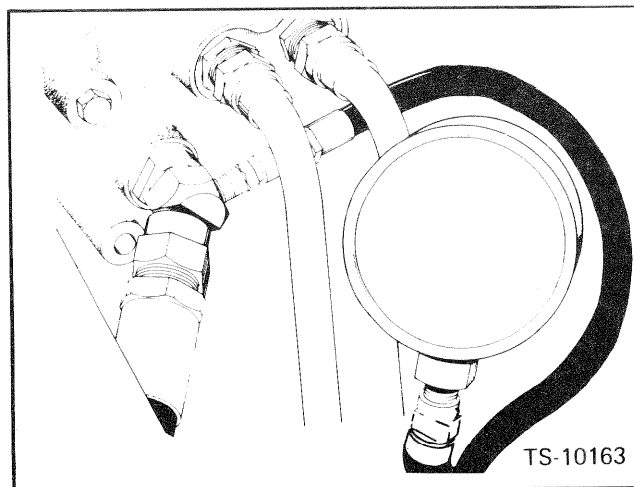

Fig. 11-3 Main Relief Valve Pressure check
1. Remove the floor panel and attach a hydraulic gauge of at least 3,000 p.s.i. (8779.2 kg./cm. sq.) capacity to the hose fitting on the main control valve. Fig. 11-3.